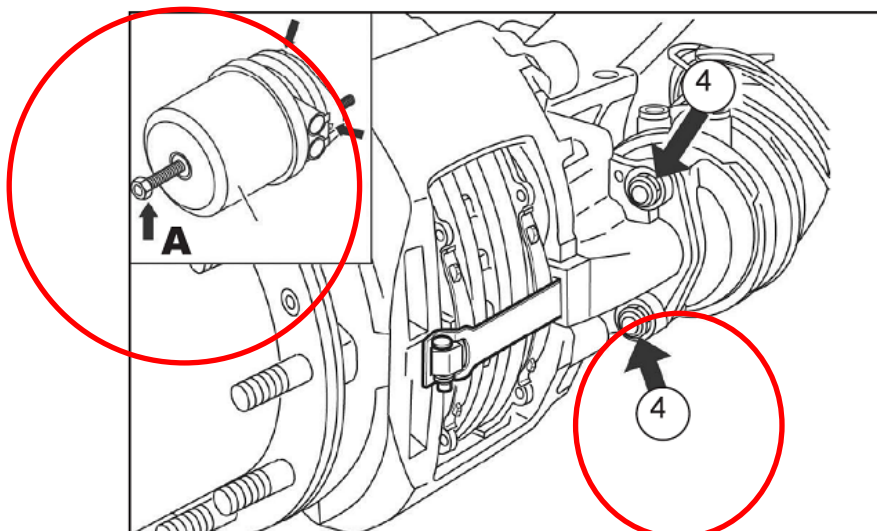

Figure 4: Location of Release Bolt and Mounting Nuts
4. Apply air to release the spring brakes (parking brakes) by using the dash-mounted air control valve. Back out the release bolt (See **Figure 4, Arrow A**) using a maximum torque of 26 lbf-ft (35 Nm) to cage the air released spring force on the pushrod.
5. Exhaust the air from the spring brake chambers by using the dash-mounted air control valve. While supporting the chamber in position, remove and discard the brake chamber mounting nuts (**Figure 4, Item 4**). Mark the orientation of the chamber to the mounting bracket for remounting. Remove the spring brake chamber. If it becomes necessary to disconnect the air hoses to the chamber, with all the air-pressure drained from the system, mark the hoses for reconnection and then disconnect the hoses from the chamber.